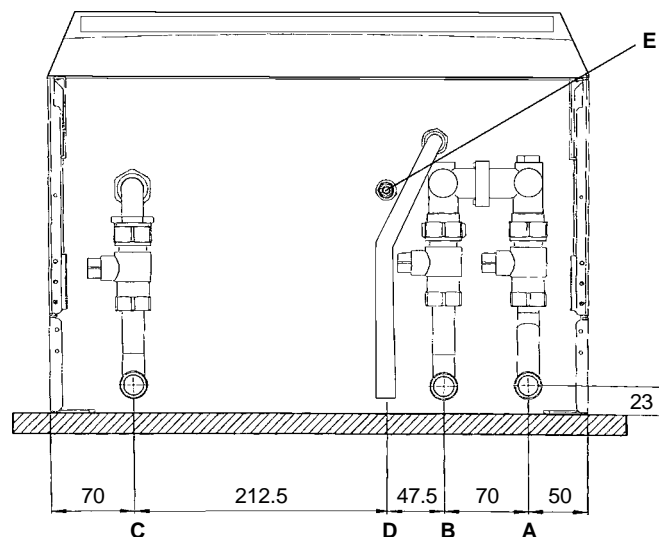

Fig. 11
4.5 CONNECT THE PIPEWORK - Fig. 11
2. Open the central heating flow and return valves (slot in-line with valve) (see Fig. 11).